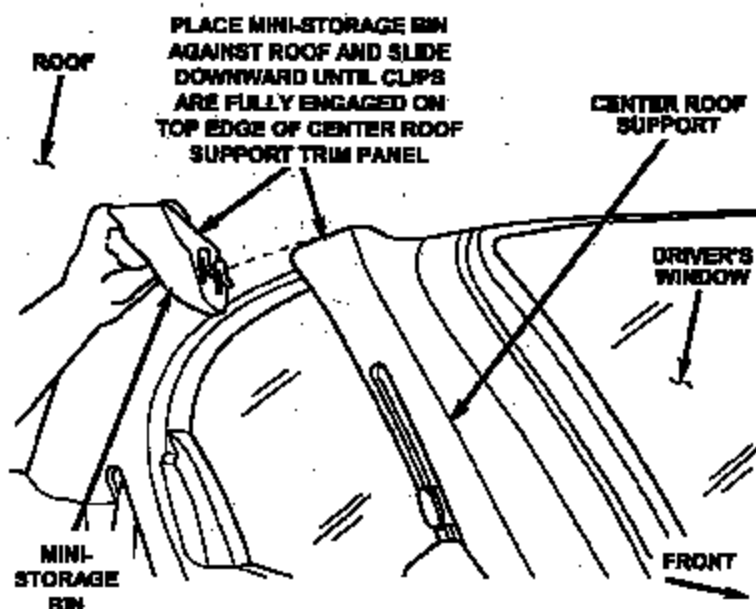

Figure 1 - Driver's Side Shown
2. Place the clip side of one of the mini-storage bins against the vehicle roof (headliner) just above the center roof support trim panel. Align the mini-storage bin so that it is centered with the roof support trim panel (Figure 1).